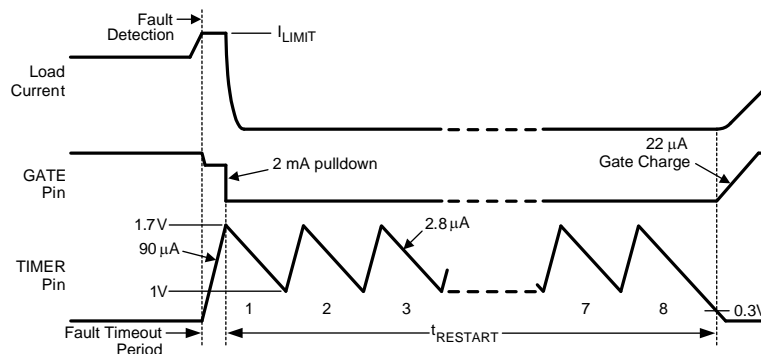

Figure 34. Restart Sequence
The LM25066I/A provides an automatic restart sequence which consists of the TIMER pin cycling between 1.7V and 1V seven times after the Fault Timeout Period, as shown in Figure 34. The period of each cycle is determined by the  $90\ \mu\text{A}$  charging current, and the  $2.8\ \mu\text{A}$  discharge current, and the value of the capacitor  $C_T$ . When the TIMER pin reaches 0.3V during the eighth high-to-low ramp, the  $22\ \mu\text{A}$  current source at the GATE pin turns on  $Q_1$ . If the fault condition is still present, the Fault Timeout Period and the restart sequence repeat. The  $\overline{\text{RETRY}}$  pin allows selecting no retries or infinite retries. Finer control of the retry behavior can be achieved through the DEVICE\_SETUP (D9h) register. Retry counts of 0, 1, 2, 4, 8, 16 or infinite may be selected by setting the appropriate bits in the DEVICE\_SETUP (D9h) register.
**C) Restart Timing** - For the LM25066I/A, after the Fault Timeout Period described above,  $C_T$  is discharged by the 2.8  $\mu A$  current sink to 1V. The TIMER pin then cycles through seven additional charge/discharge cycles between 1V and 1.7V as shown in Figure 34. The restart time ends when the TIMER pin voltage reaches 0.3V during the final high-to-low ramp. The restart time, after the Fault Timeout Period, is equal to: